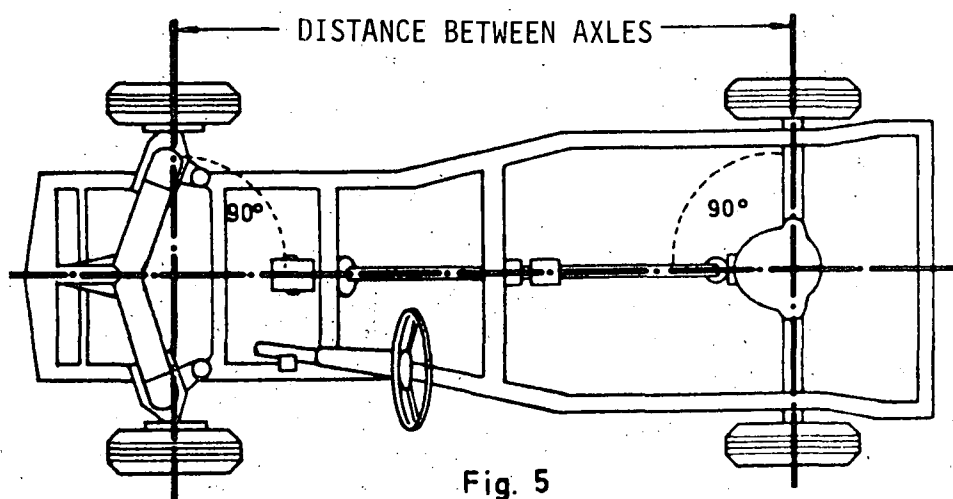

Fig. 5
h) Check the distance between axles (fig. 5).